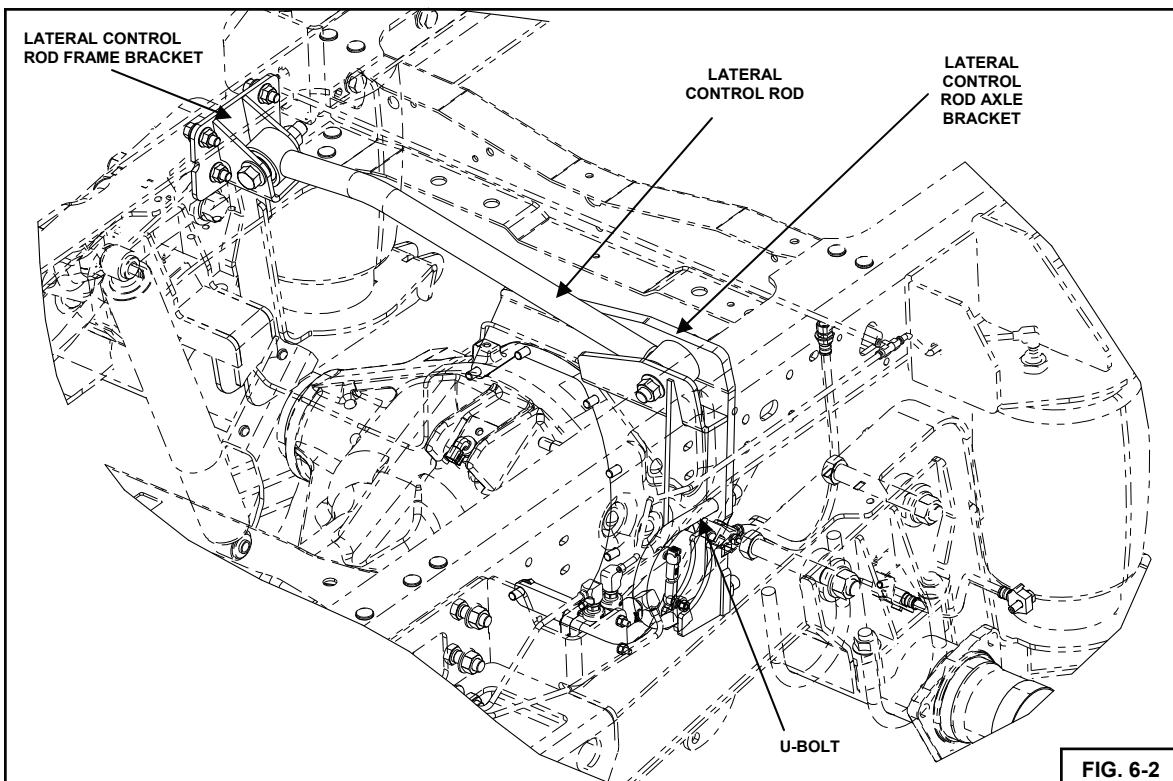

FIG. 6-2
3. Mount the LATERAL CONTROL ROD FRAME BRACKET inside the frame (on the passenger side) using (4) 7/16 X 1 1/4 UNC FLANGE BOLTS. See Figure 6-2. (See Table 10-1 for appropriate Torque).
4. MOUNT the LATERAL CONTROL ROD AXLE BRACKET on the axle using (7) 3/8 X 1 UNC FLANGE BOLTS, (7) 3/8 LOCK WASHERS, (1) 5/8 UNF, 4.09 X 6.50 UNF U-BOLTS, and (2) 5/8 UNF TOP LOCK FLANGE NUTS. (See Table 10-1 for appropriate Torque).